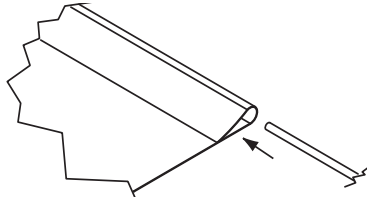

Figure 6
*If you encounter any difficulties installing or servicing your Clarion screen, call your dealer or Draper, Inc., Spiceland, Indiana, (765) 987-7999; or fax (765) 987-7142.*
- ① Move frame assembly out of the way, unroll viewing surface and place on smooth/clean surface. (Orient viewing surface so that folded side of hem is visible.)
- ② Insert plastic tubing inside pocket formed by hem on all 4 edges of viewing surface (see Fig. 6).